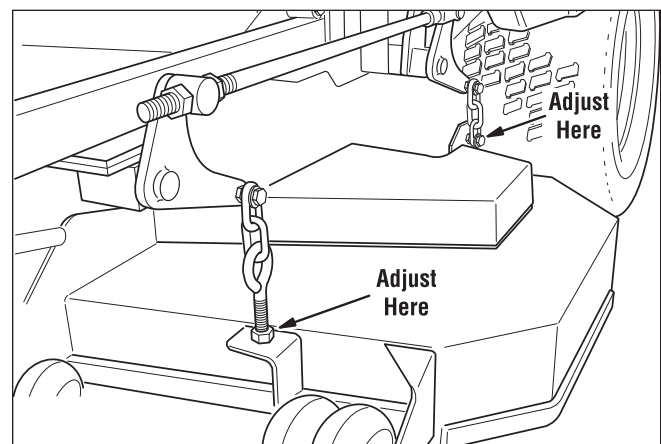

Figure 41. Hanger Chain Adjustment
7. Adjust the front eyebolts until the chains are tight and the deck is still resting on the 2 x 4's. Tighten jam nuts. See Figure 41.
8. Loosen the nuts and allow the rear of the deck to rest on the 2 x 4's and 1/4" spacers. Slide the chains in the slots until the chains are tight and tighten the nuts. See Figure 41.
8. Loosen the nuts and allow the rear of the deck to rest on the 2 x 4's. Slide the chains in the slots until the chains are tight and tighten the nuts. See Figure 41.